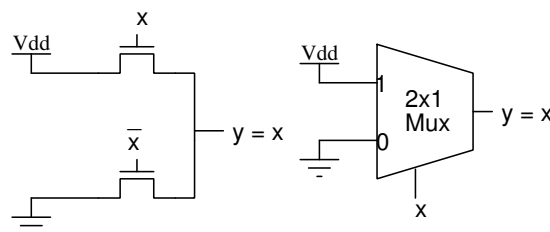

Figure 2
2. Use the 2×1 multiplexor (only) shown in Fig. 2 and implement the following logic function (Hint: Use Shannon's expansion.):